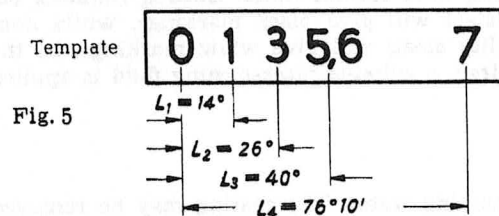

Fig. 5
Most drawings specify the angular distances of individual characters from a common starting point ( $a_1, a_2, \dots$ ) as shown in Fig. 5. Using equation (2) it is then possible to calculate the distances  $L_1, L_2, L_3$ , etc. on the template. For easier calculation it is recommended to state minutes of arc in decimals.